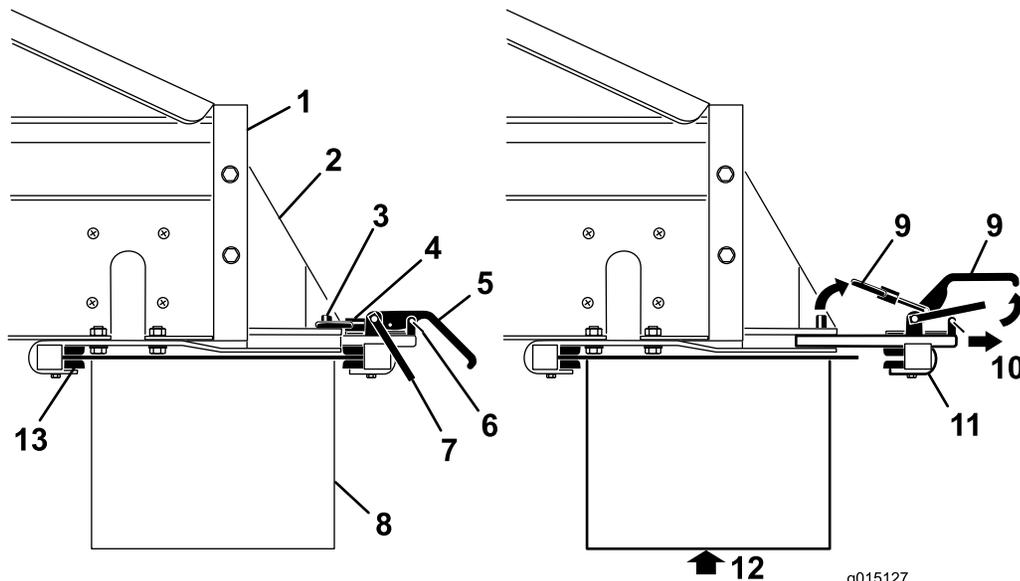

Figure 41
1. Remove the safety latch clips from the clamp handles (Figure 41).
2. Lift the safety latch, then lift the option attachment clamp handles, and release the lock rings from the lock pins (Figure 41).
3. Slide the rear option attachment clamp assembly out of the quick attach slots (Figure 41).
4. With assistance, insert the front edge of the twin spinner up and under the rear of the machine into the front clamps on the brackets (Figure 41).
5. While supporting the twin spinner, slide the rear option attachment clamp assembly back into the slots in the brackets, and over the rear edge (Figure 41).
7. Install the safety latch clips to the clamp handles (Figure 41).